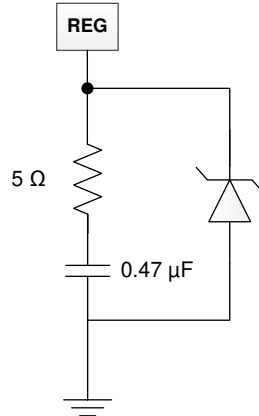

**Figure 9-2. 3-Series BQ2961 and BQ2962 Schematic**
1. If the VSS pin cannot be connected first, it is required to add a resistor of a minimum of 5  $\Omega$  to a maximum of 10  $\Omega$  (a 5- $\Omega$  resistor is used in the reference schematic, Figure 9-2) in series with the REG capacitor. When VSS is floating, the REG capacitor always charges up to the VDD voltage. When VSS is finally connected, the REG capacitor will be discharged. Adding a small resistor in series reduces the current strength and avoids any potential damage to the REG pin. The 5- $\Omega$  resistor can be placed in series with the REG connect circuit (as shown in Figure 9-2) or in series of the REG capacitor (as shown in Figure 9-3). Placing the resistor in series with the REG circuit results in a small drop of  $V_{REG}$  (for example: max loading of  $I_{REG}$  mA with a 5- $\Omega$  resistor will drop 5 mV on  $V_{REG}$ ), but such a connection can protect against rush current discharge from a REG capacitor or an external filter capacitor connected to the REG pin. Placing the resistor in series with the REG capacitor is an alternative to avoiding an additional drop in  $V_{REG}$  if the filter capacitor used by the external circuit is much smaller than the REG capacitor.
3. The cell should be connected to the lower  $V_n$  pin; the unused  $V_n$  pin should be shorted to the ( $V_{n-1}$ ) pin. See Figure 9-2 for details.